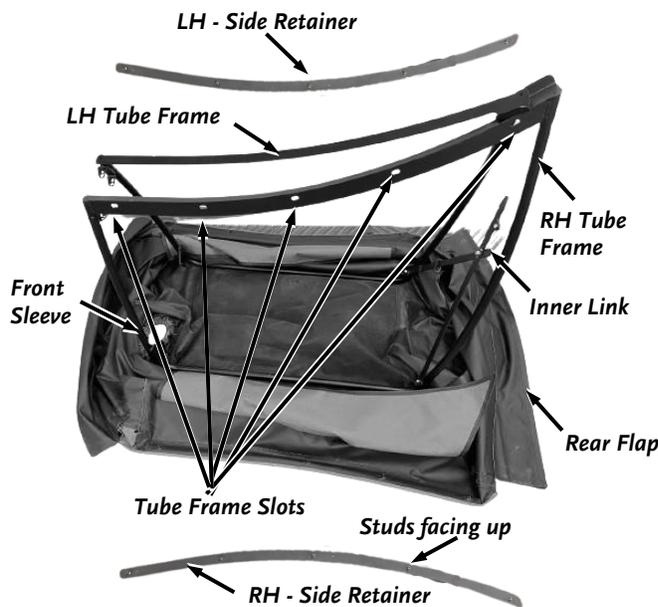

Figure 28
3. Set the Tube Frame Assembly into the Enclosure with the Inner Link positioned toward the Rear Flap (opposite the Front Sleeve) (**Figure 28**).
4. Check that the left hand and right hand side retainers are oriented correctly by holding up one retainer at a time. With the retainer on the outside, feed the studs through the Tube Frame Slots. The parts will be oriented correctly if all 5 studs feed through the Slots without issue. Once you have confirmed both retainers are in the correct orientation, lay them down (keeping its same orientation) next to the Enclosure Pocket with the studs pointing up (**Figure 28**).